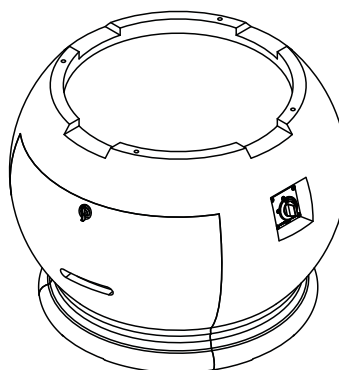

Fig. 19-1 Place base
1. **CAREFULLY** place the base in an appropriate location (see Fig. 19-1, and refer back to the LOCATION section if needed).